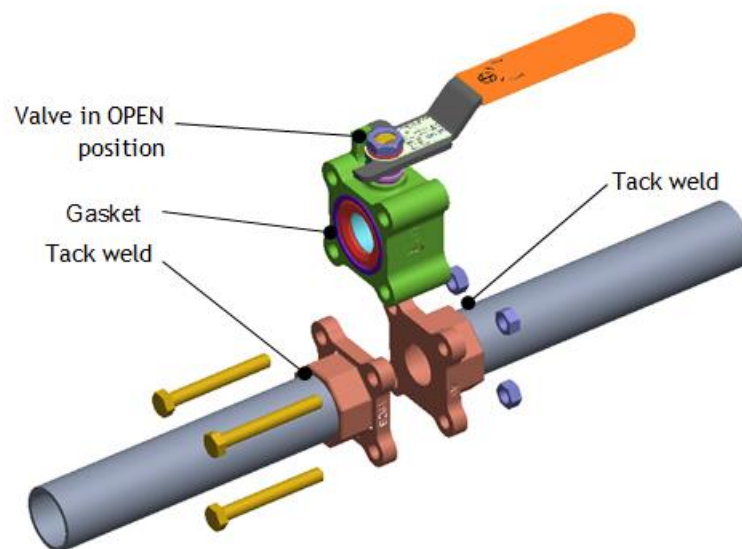

Fig. 5 Three piece ball valves Welding
- Tighten the nuts uniformly with a torque as given in the Table 3 & 4 and in the sequence shown in Fig 5.